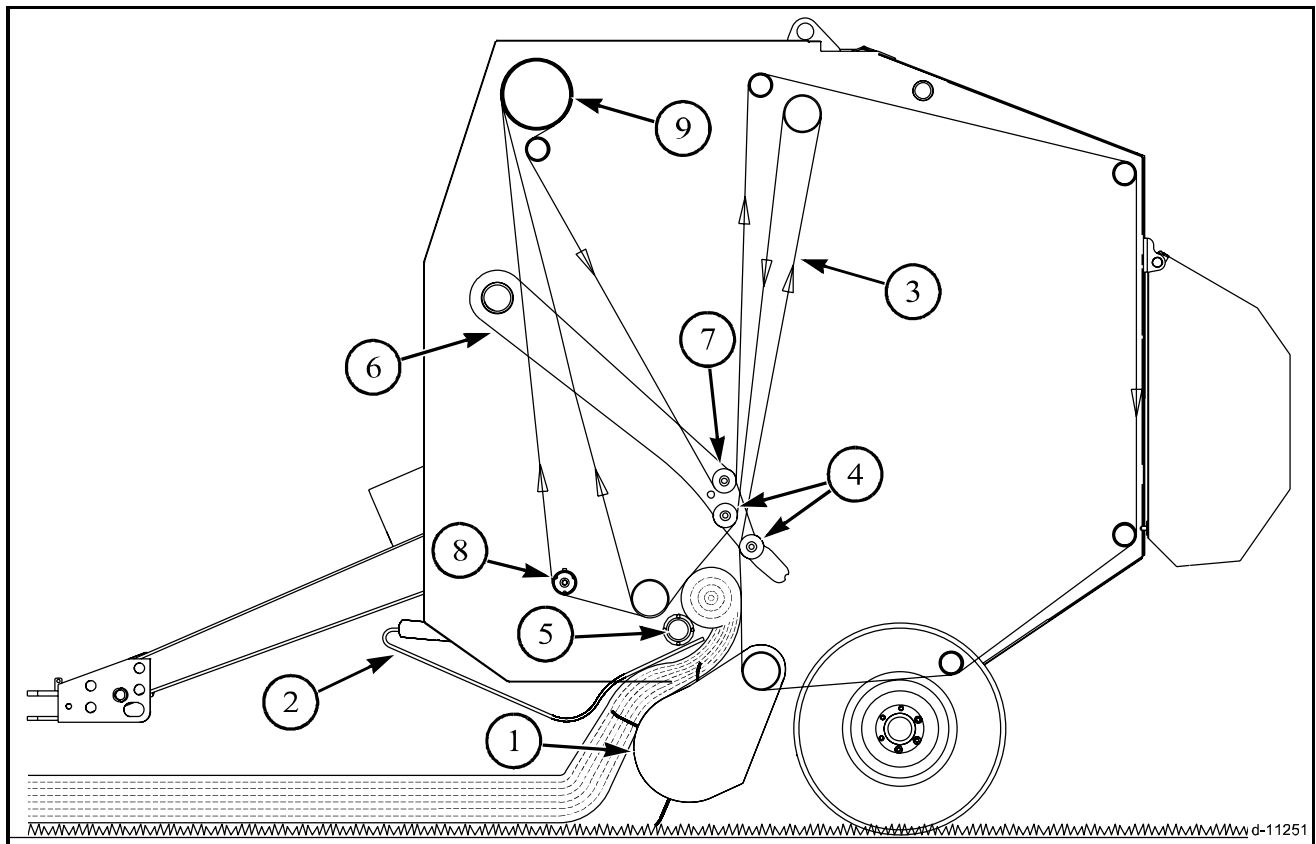

FIG. 2
FIG. 2: The illustration shows the windrowed crop being picked up. The crop moves across the pickup assembly (1) into the bottom of the open throat bale chamber. The windguard (2) holds the crop against the pickup assembly. In the bale chamber the crop contacts the rough top surface of the forming belts (3), which are moving upward. The forming belts carry the crop to the top of the starting chamber which is formed by the bale density rolls (4). The downward motion of the forming belts turns the crop downward against the starting roll (5). The starting roll folds the crop rearward into the crop coming in. The core is started and begins to roll.